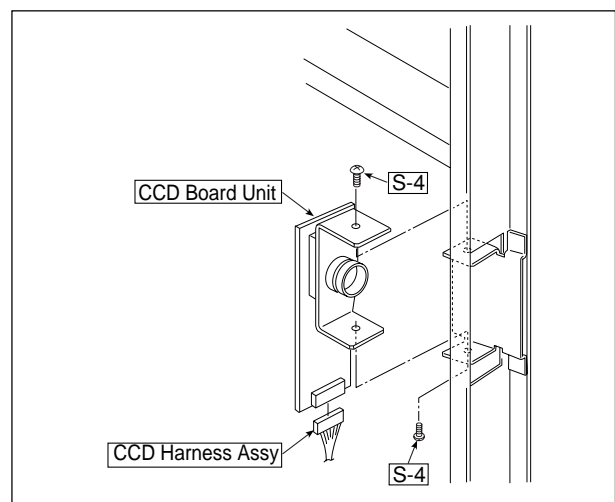

Fig. 9
- 4) Remove the CCD Board Unit. (See Fig. 9.)
1. Remove the "S-4" screw shown in Fig. 9 and then remove the CCD Board Unit.